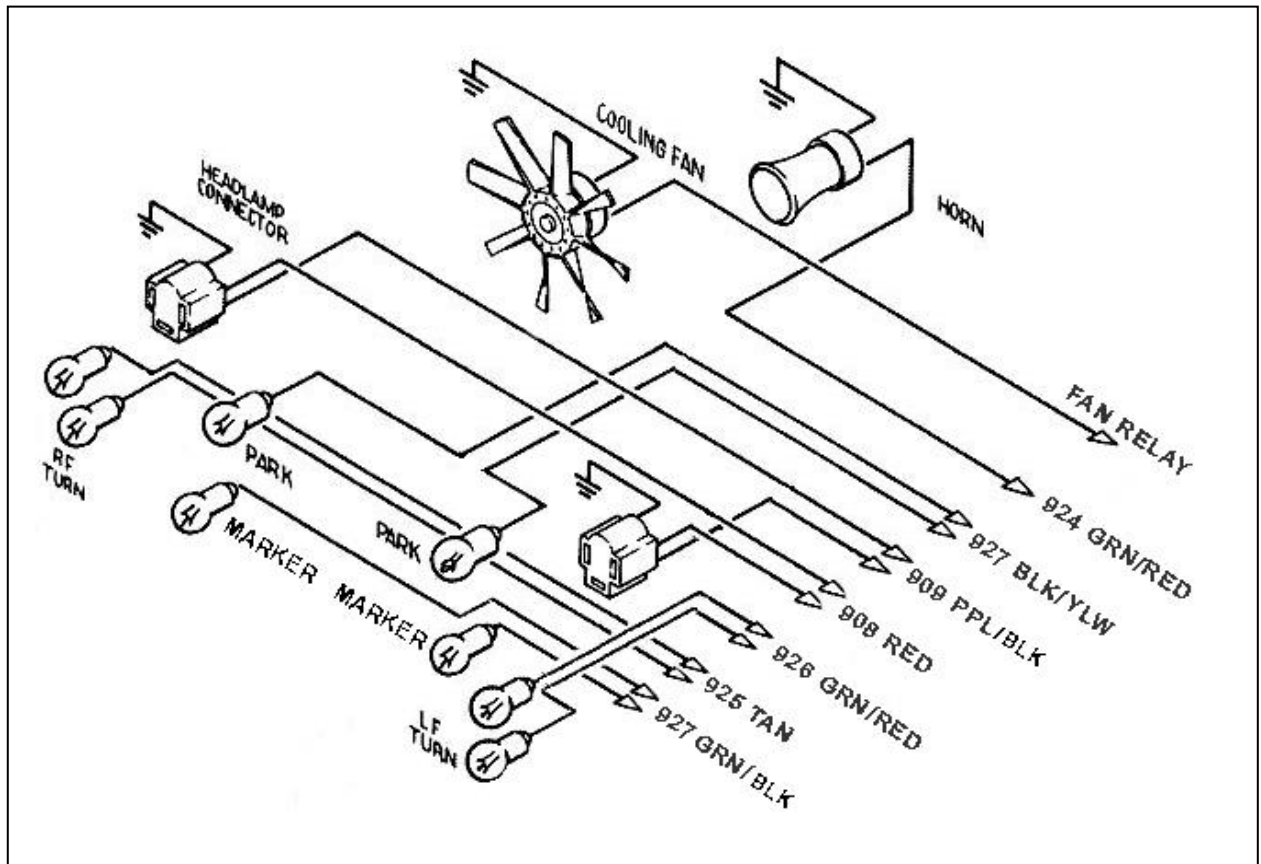

Figure 8-4B HEADLIGHT SECTION A Wiring
8.5 HEADLIGHT SECTION A. See Figure 8-4B.
Note: The wire going to the fan in Figure 8-4B will be coming from the fan relay output terminal. Wire #901 (GRY/WHT) from the ACCESSORY SECTION SWITCHES is an activation wire for the fan relay.